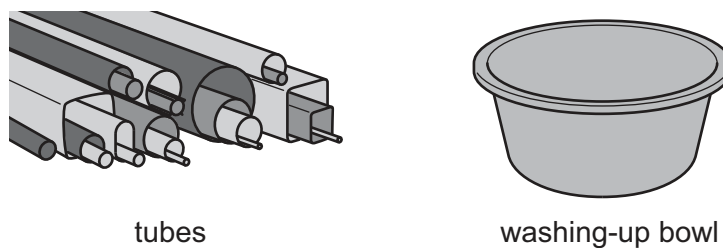

Fig. 2.1
- 2 Fig. 2.1 shows two products, lengths of tube and a washing-up bowl, made from plastic.